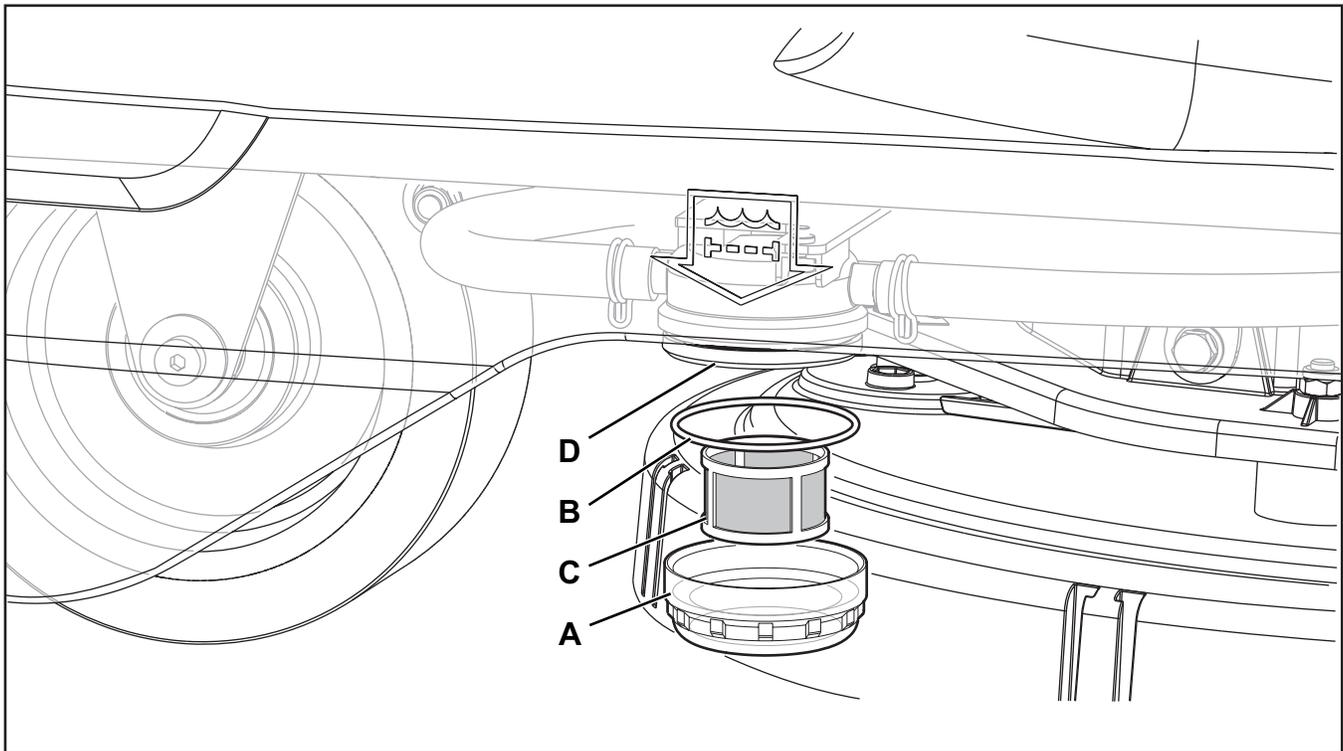

Figure 5
4. Remove the transparent cover (A, Figure 5), retrieve the gasket (B), then remove the filter strainer (C). Wash and rinse them with water, then refit them carefully onto the filter support (D).